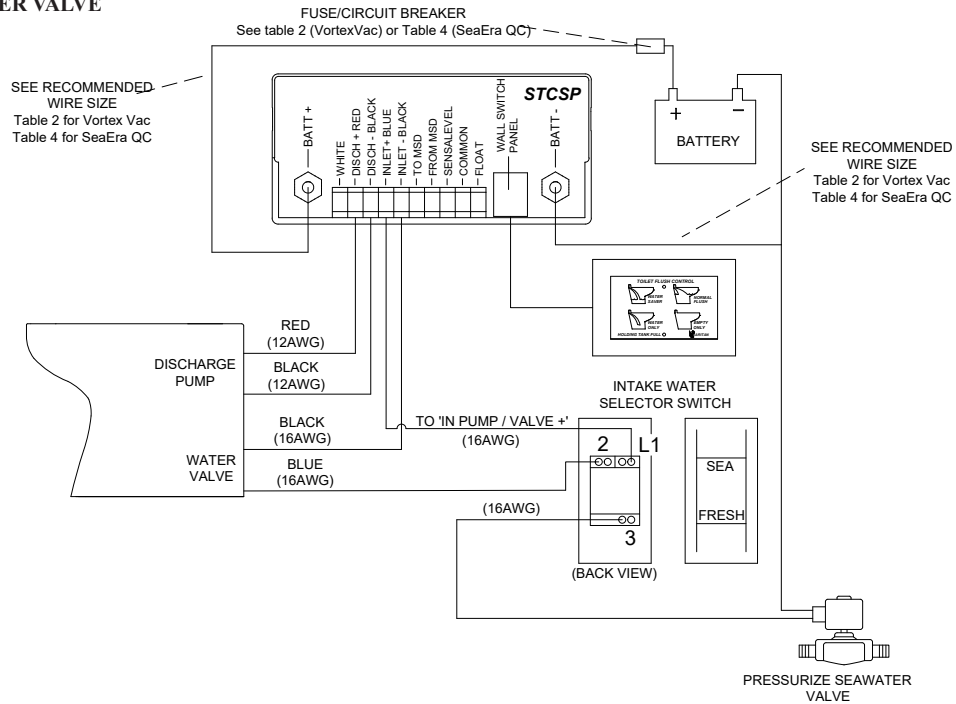

FIG 6
- To start Electroscan or Purasan EX from Smart Toilet Control(STC), wire per Fig 6.